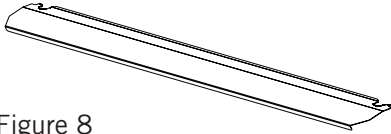

Figure 8
1. A safety panel is designed to protect control panel and the buttons when the oven is in Grill mode (Figure 8)